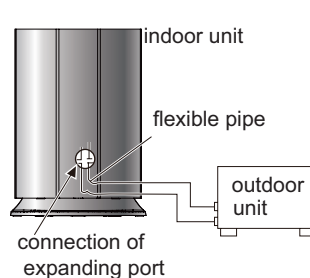

Fig.1
1. Both the indoor side and outdoor side adopt connection of expanding port. The connection pipe is as shown in the figure, used for connecting indoor unit and outdoor unit. (As show in Fig.1)